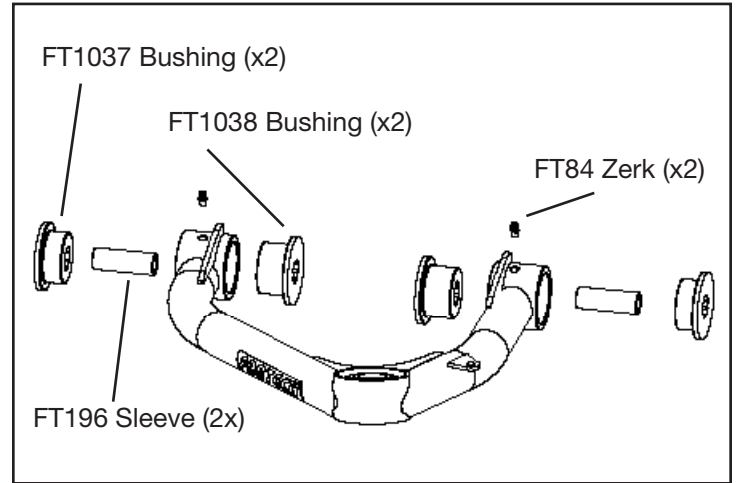

FIGURE 26
19. Install all these components in the control arm barrels. **SEE FIGURE 26**